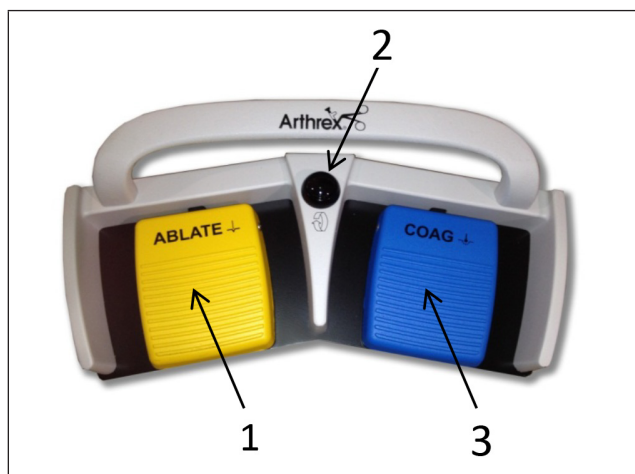
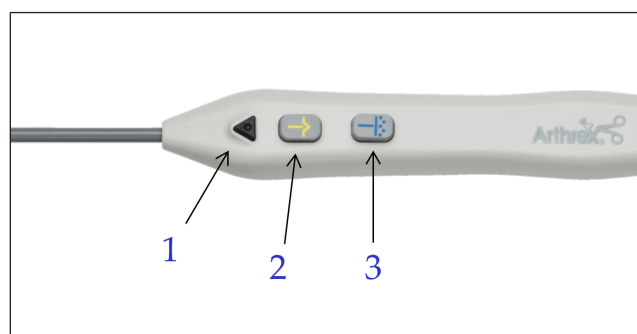

Figure 12 Synergy^{RF} System Footswitch - Description
Figure 13 Apollo^{RF} probe - Description
1. ABLATE Power Setting	Ablate – means to remove or cut. The ABLATE power settings range from 0-9. When an accessory device is plugged into the console, it will be recognized and the recommended ABLATE Power setting will appear. If an alternate setting is desired, use the UP and DOWN ABLATE power adjustment buttons to choose the desired setting. The Ablate Power Change button on the Synergy ^{RF} footswitch (see Figure 12) or Apollo ^{RF} probe (see Figure 13) can also adjust the Ablate Power setting . Each activation of the Ablate Power Change button increases the Ablate Power setting by 1 unit, in a positive direction only.
The Synergy^{RF} generator has built in intelligent device recognition (IDR) for Apollo^{RF} probes. When attached, the recommended setting will be automatically applied, but individuals that desire an alternate setting can use the **ABLATE** power, **COAG** power, or **Ablate power change button** (see Figure 13) on the device to change the settings. Some power settings may be not be allowed, depending on the RF probe attached.
The **Probe Buttons** screen has radio buttons to enable or disable the **ablate power change button** on the Apollo^{RF} probe handpiece (See Figure 13). *This function is only available on software version 3.0 or greater.*